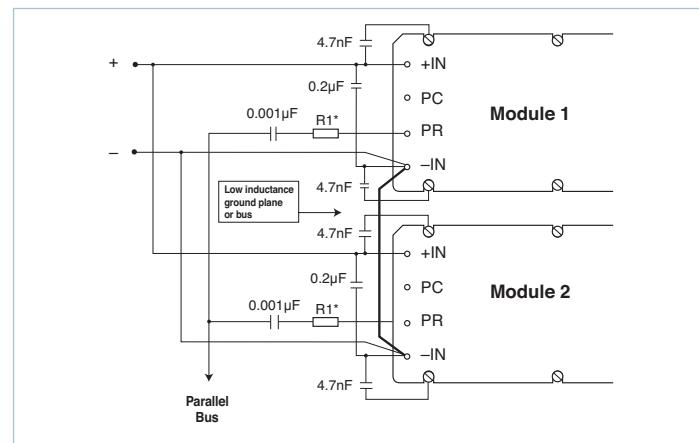

Figure 9 — AC coupled single-wire interface
**AC coupled single-wire interface.** All PR pins are connected to a single communication bus through  $0.001\mu F$  (500V) capacitors. This interface supports current sharing and is fault tolerant except for the communication bus. Up to three converters may be paralleled by this method. See Figure 9.